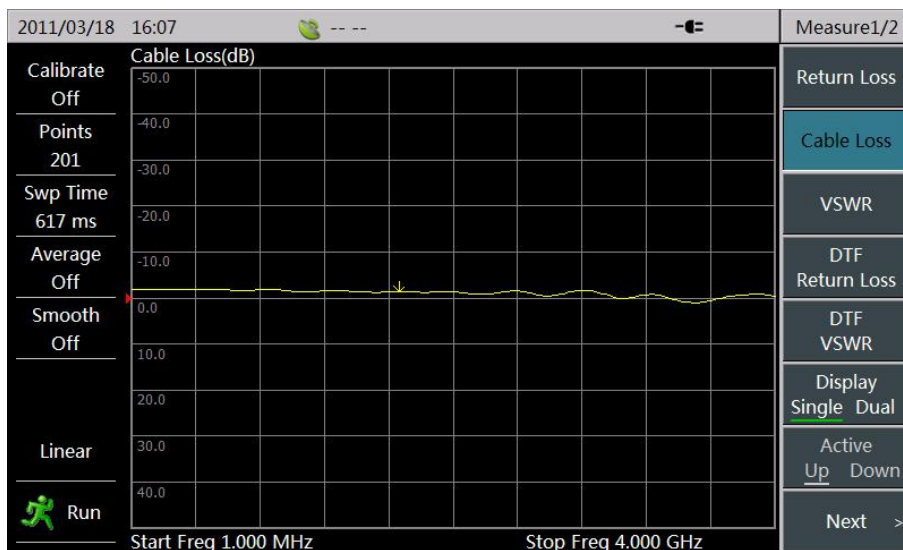

Figure 2-2 Measuring format Select
- 2) Select **[Cable Loss]** menu to set the current measuring format of instrument as “Cable Loss”, as shown in Figure 2-2: